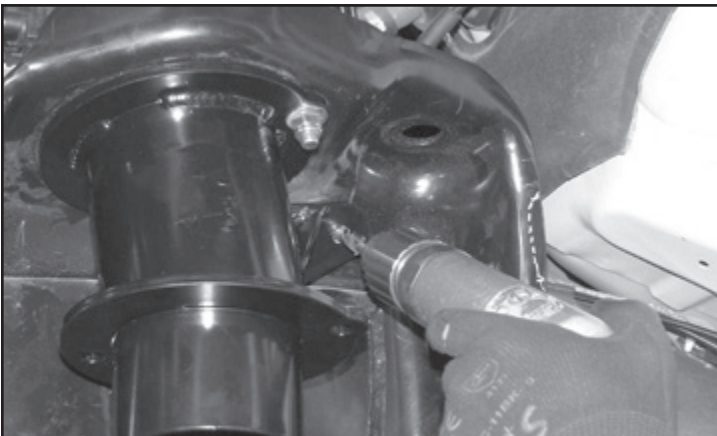

FIGURE 18 - STEP 27
27. Using the support tab on the coil spacer as a drill guide, drill a 7/16" hole through the factory coil bucket. **SEE FIGURE 18**